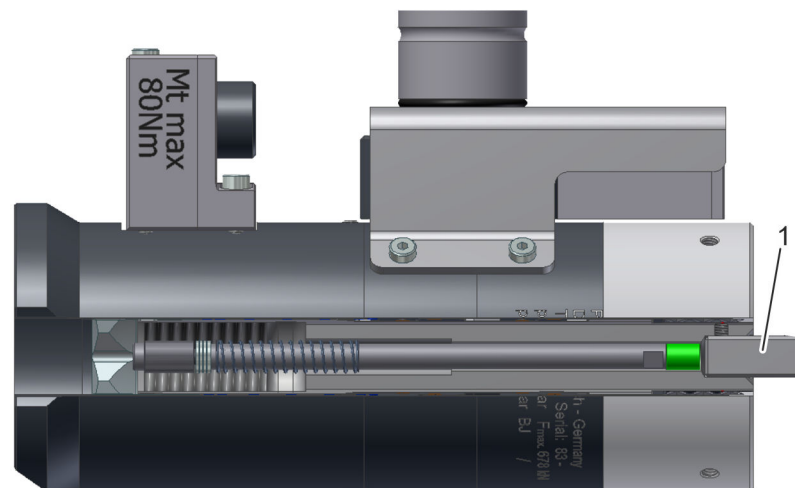

Fig. 17: Square socket
5. → Insert the square socket (Fig. 17/1).